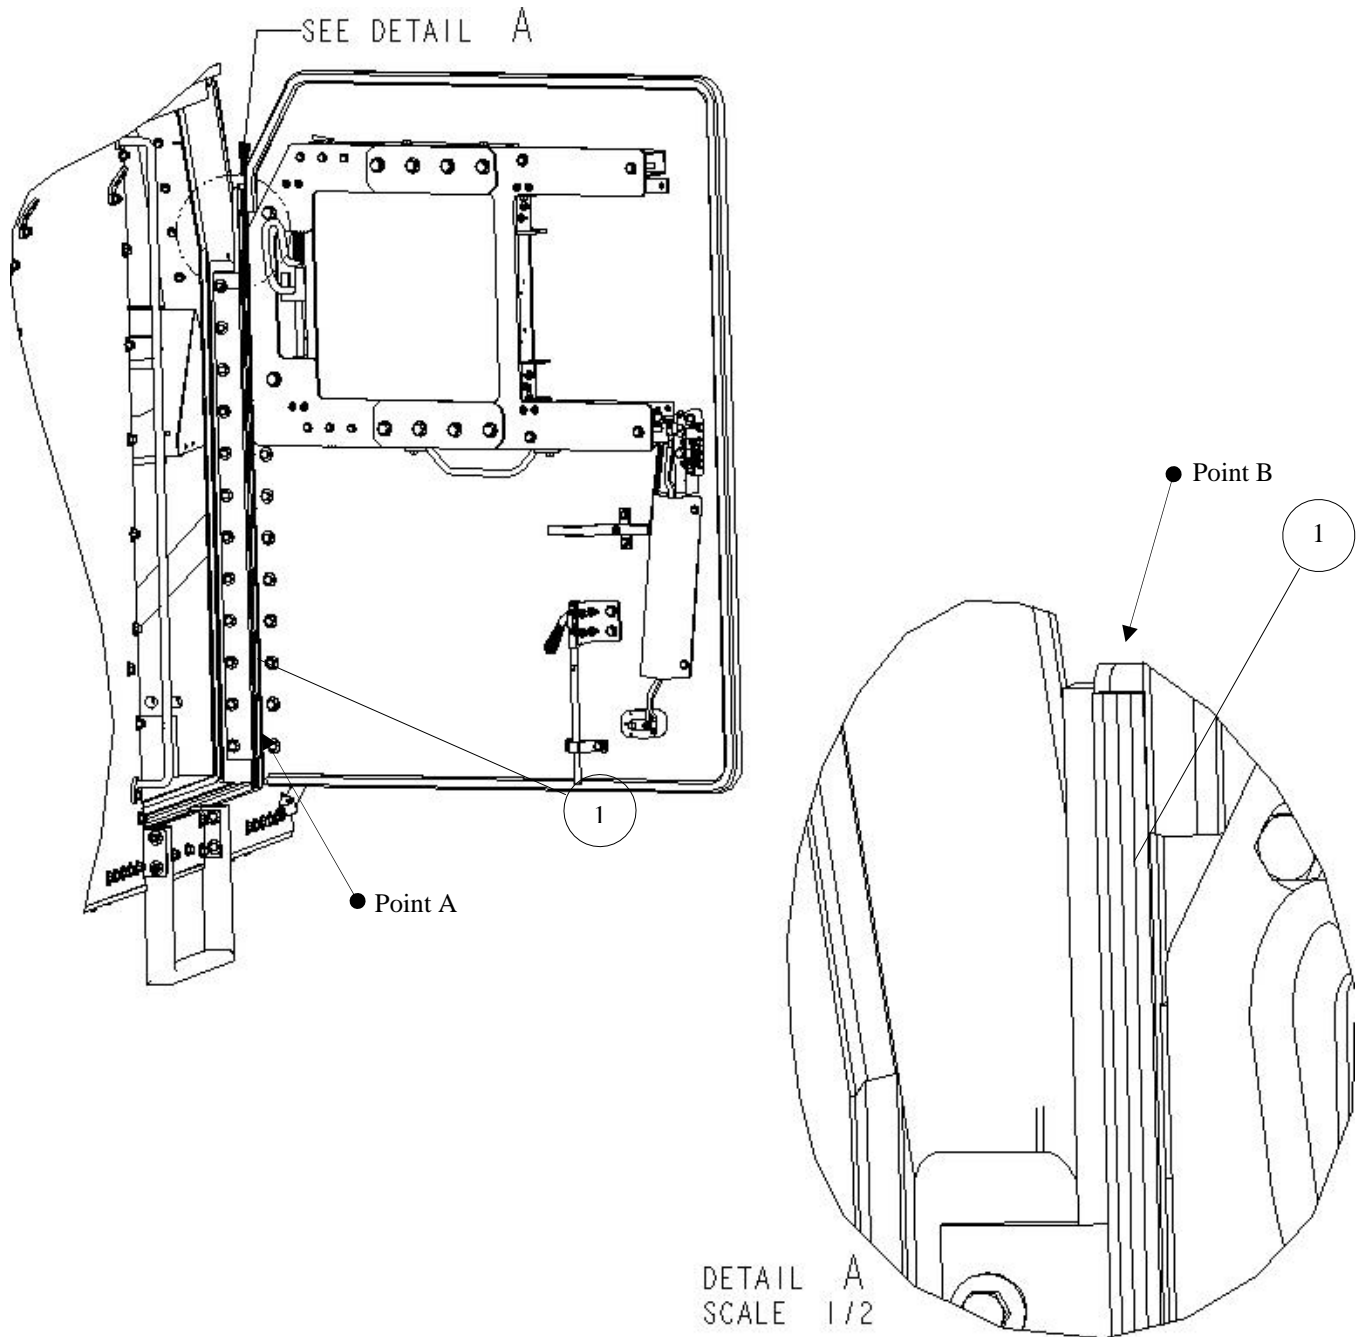

Figure 4-8. Installation of Trim Seals Inside of Right Door Hinge Area.
19. Apply trim seals to right door hinge and behind right forward armor panel assembly, as shown in Figure 4-8.